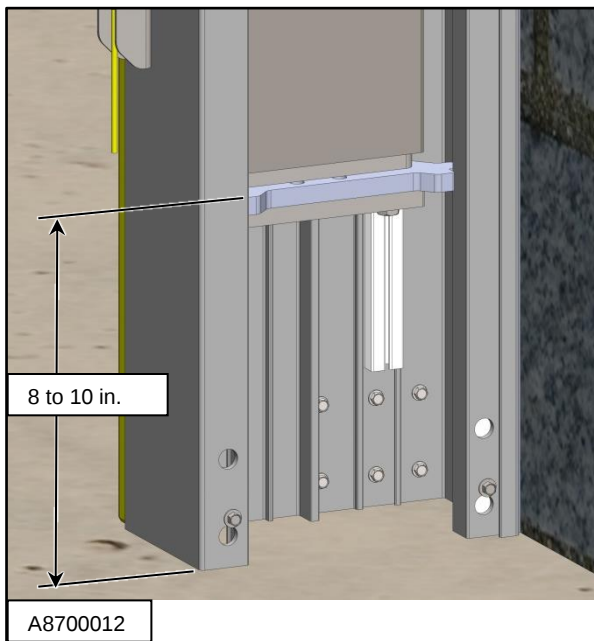

Figure 41
4. With the door panel in the fully open position, the counterweights should be positioned 8 to 10 in. above the bottom of the side column. (See Figure 41)
5. To adjust the counterweights, securely block the counterweights in the position indicated in Figure 41.